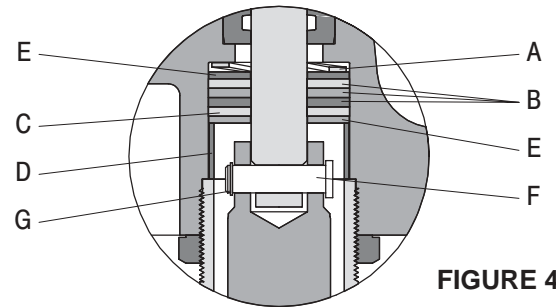

FIGURE 4
- Replace packings (see figure 4).